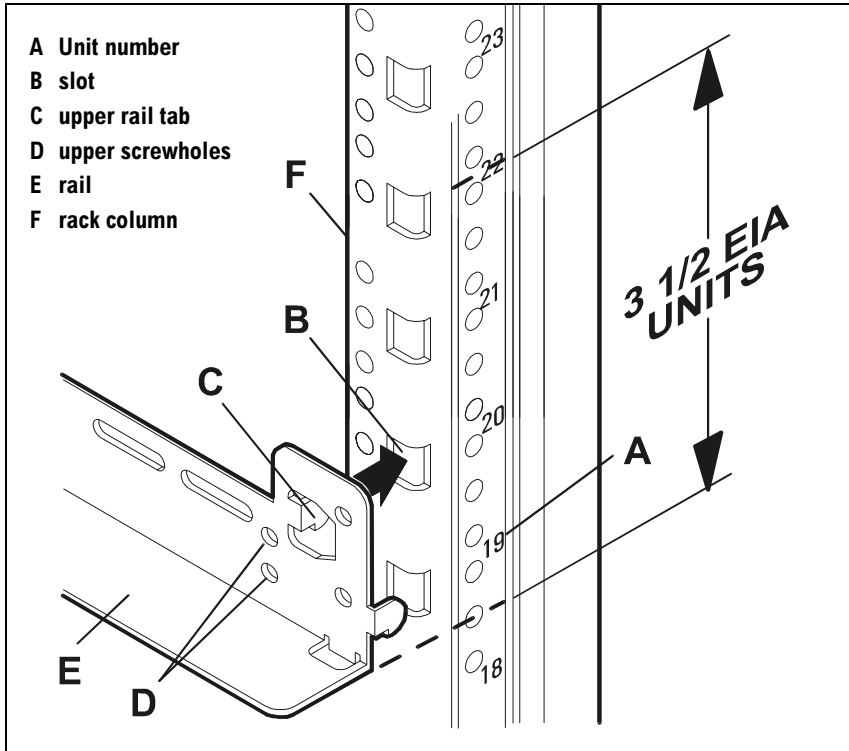

Figure 20 Half-Unit Rail Position
- If the bottom of the selected rack space falls between Unit numbers, insert the upper rail tabs (C in Figure 20) in the higher slot (B).